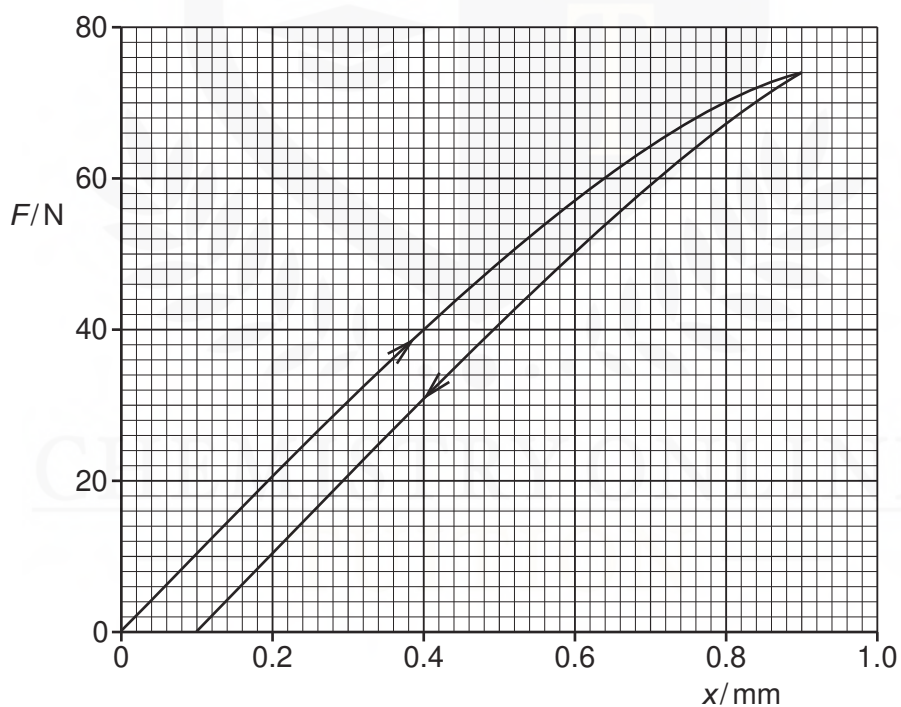

Fig. 4.1
The variation with extension x of the tension F in the wire is shown in Fig. 4.1.
- (i) On Fig. 4.1, shade the area that represents the energy E_S .
(ii) Use Fig. 4.1 to calculate the energy E_S .